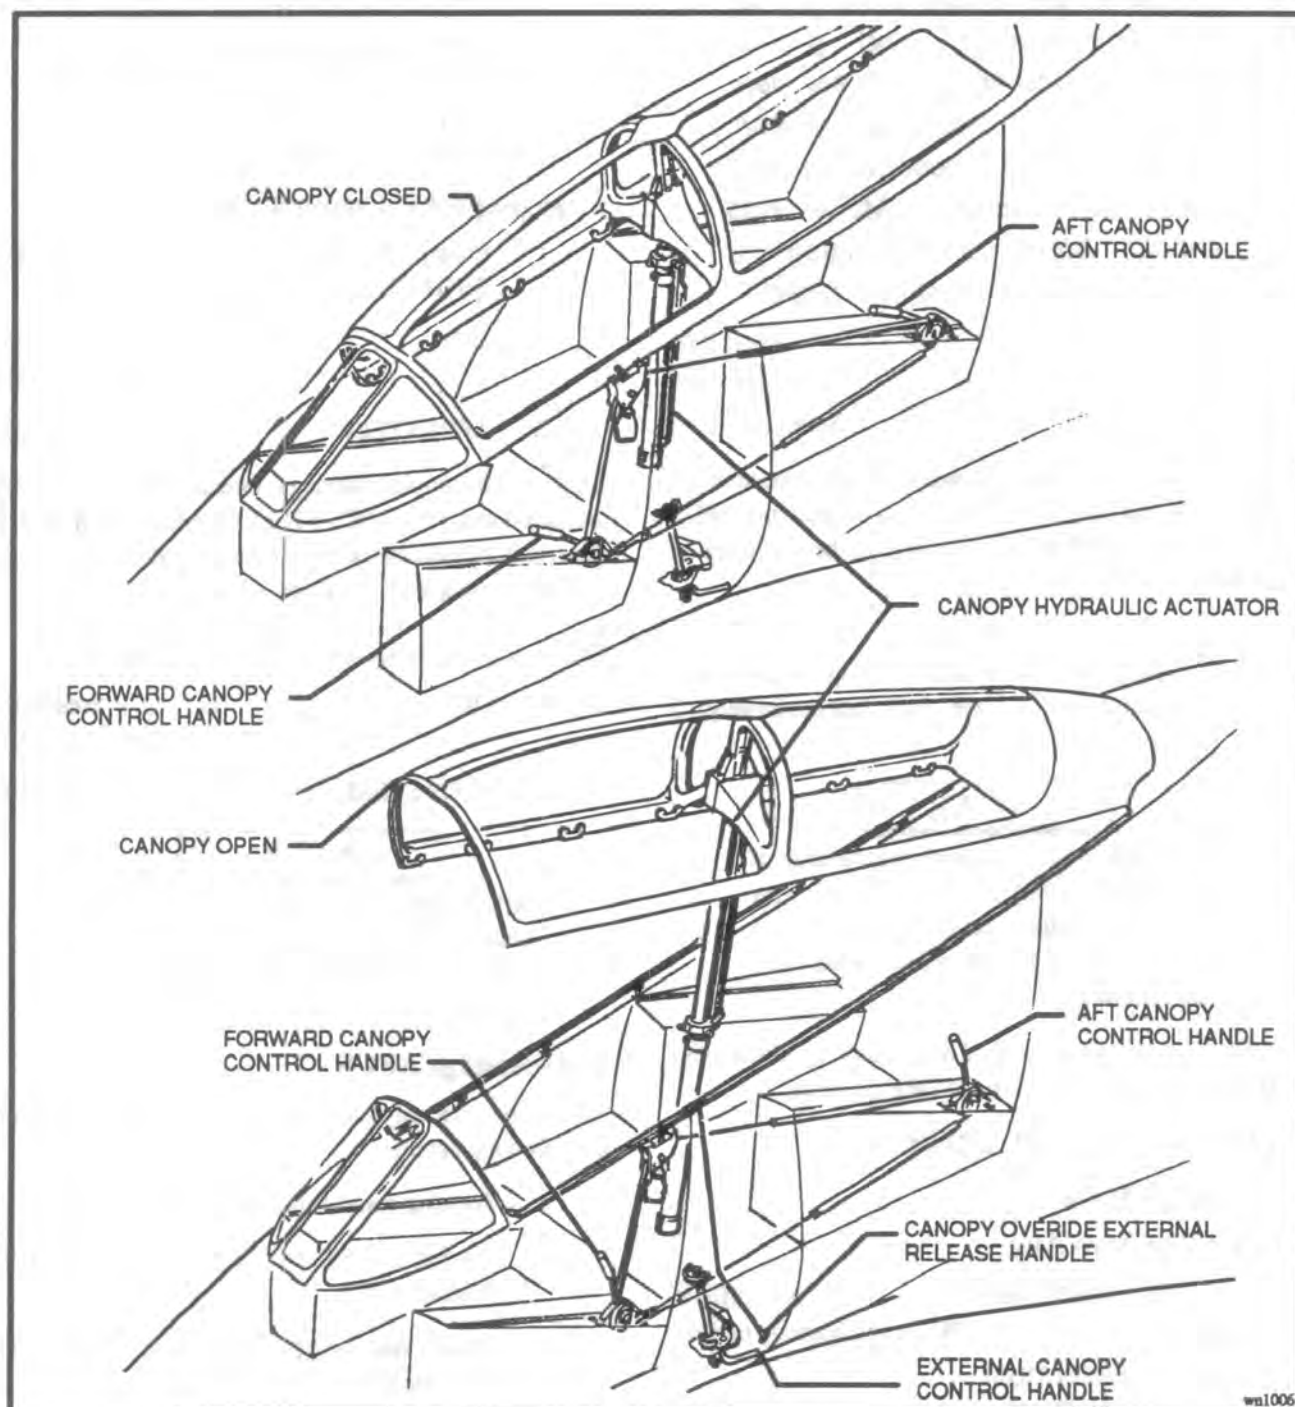

Figure 1-32 Canopy Control System - Normal Operation
1.260 Refer Figure 1-32. Canopy controls consist of two interconnected canopy control handles, mechanically linked to the canopy operating mechanism, and a canopy override lock handle (rifle bolt) that locks the canopy in the down position. A hand pump, located adjacent to the fwd R.H console, is attached to hydraulic pumps that provide pressure to actuate the canopy when utility system pressure is not available. A small reservoir replenished from the utility hydraulic system provides sufficient fluid for one operation of the canopy actuator. Approximately 50 strokes of the hand pump are required to open the canopy. The canopy control handle must be used in conjunction with the hand pump in the same manner as with the utility hydraulic system.